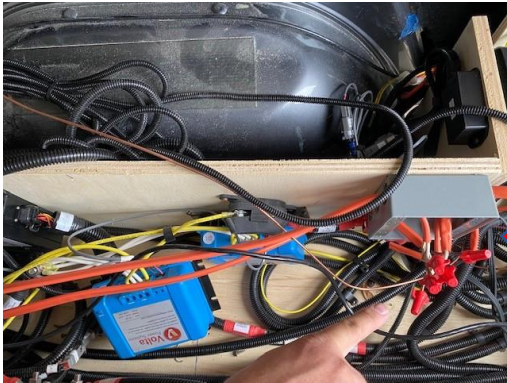

Figure: 20
6. There are 2 types of Volta Inverter / Chargers installed on the Volta System. If Type "B" Tiffin part 5130233 Inverter/charger 3200 watt 51 G2L is installed, remove the 4 x 4 square junction box cover and inspect all wire nuts for proper AWG size for 10 AWG wire. Also inspect for any exposed wire showing from around wire nuts. Replace wire if necessary 2-#10 & #10G. See Figure 20, 21 and 22. Check and tighten any loose wire nut connections, tape nuts using electrical grade wiring tape, also install 3/4" wire restraining clamps (RACO #2863 NM clamp type connector) as wiring enters and exits this junction box.